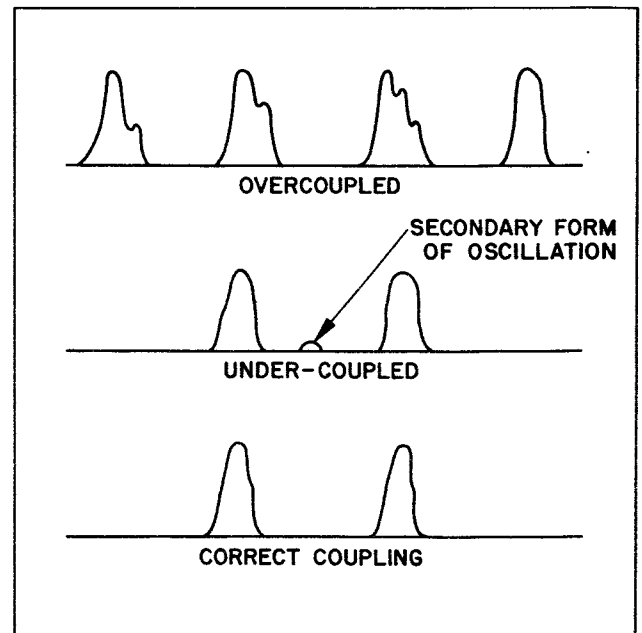

Figure 6-9. Examples of Lobe Shape
m. With all connections remaining the same, the transmitter pulse is now examined as indicated by the lobe on the cathode-ray tube screen. See figure 6-9 for examples of lobe shapes.